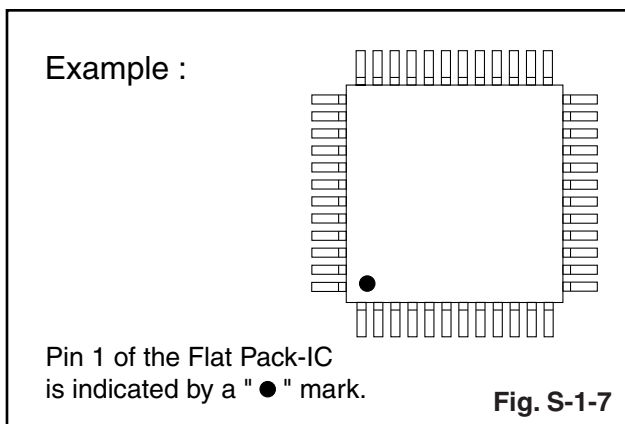
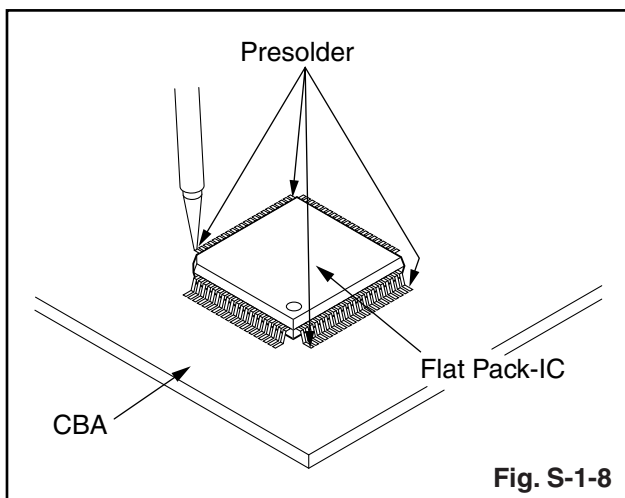

Fig. S-1-7
Fig. S-1-8
2. The "●" mark on the flat pack-IC indicates pin 1. (See Fig. S-1-7.) Be sure this mark matches the 1 on the PCB when positioning for installation. Then presolder the four corners of the flat pack-IC. (See Fig. S-1-8.)